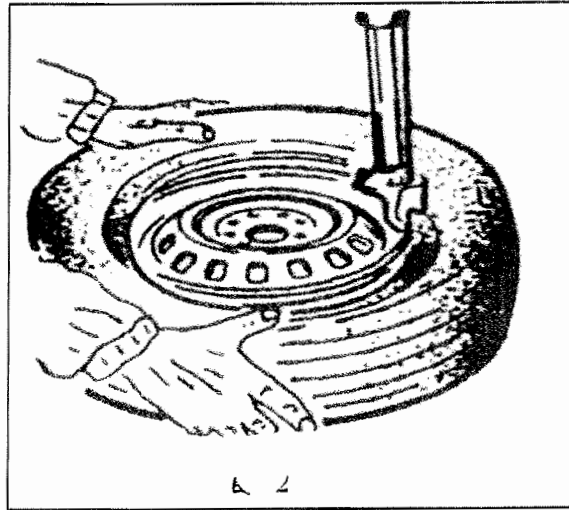

FIG 22
4.2.3 If there is tube, place it in the tire and plug the core. And assemble the lip according to the above mentioned step (FIG22). In the process of clamping the rim, do not